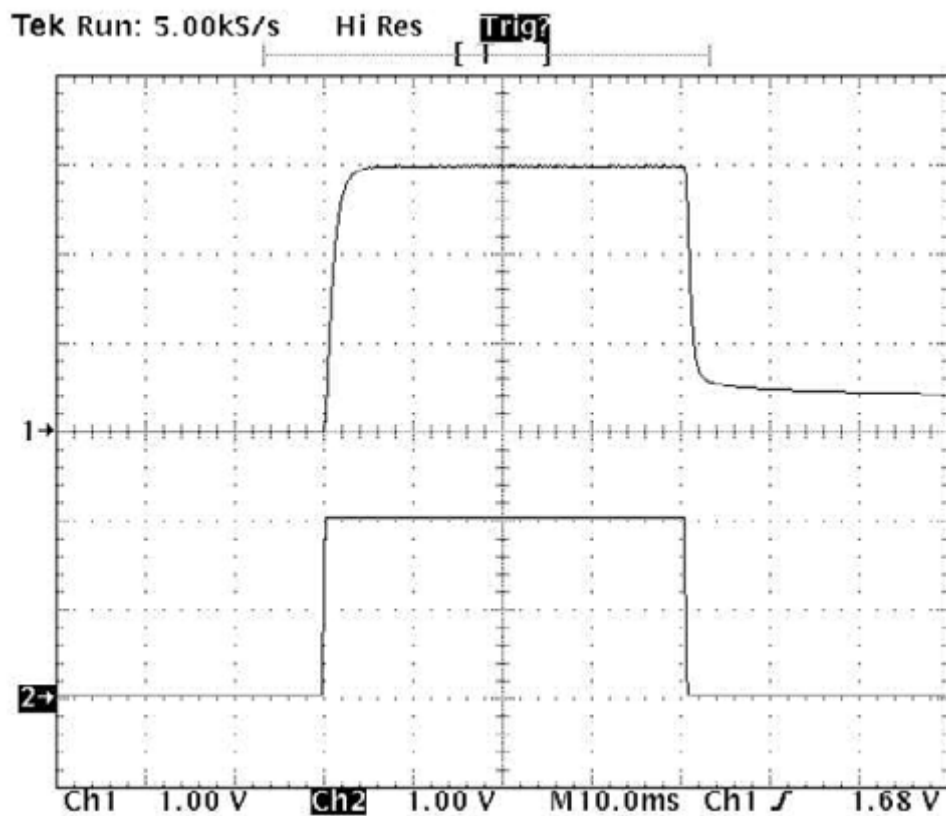

Fig. 27: *kVact_kVnom*
- The oscillogram must appear as shown in (Fig. 27 / p. 80).